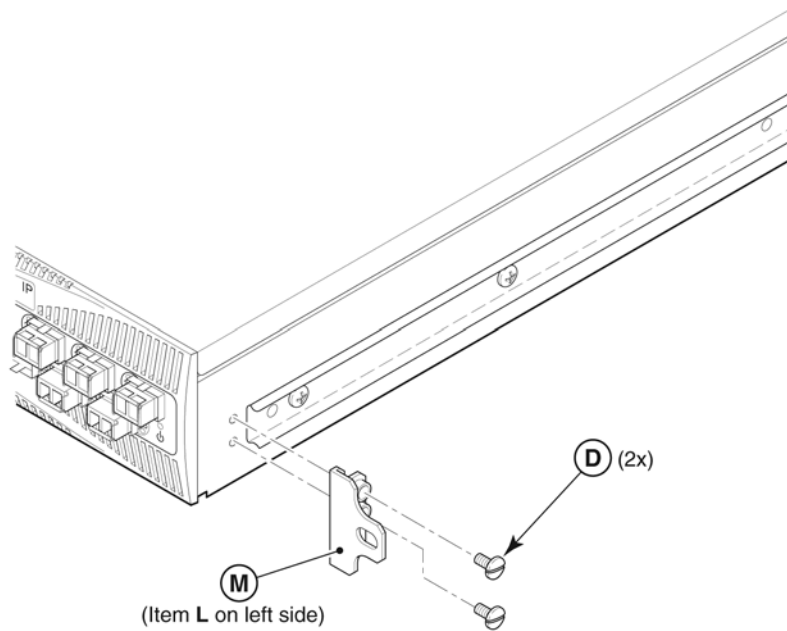

FIGURE 4 Attaching a rack mount bracket
1. Position the right mount bracket next to the right side of the switch (Figure 4).